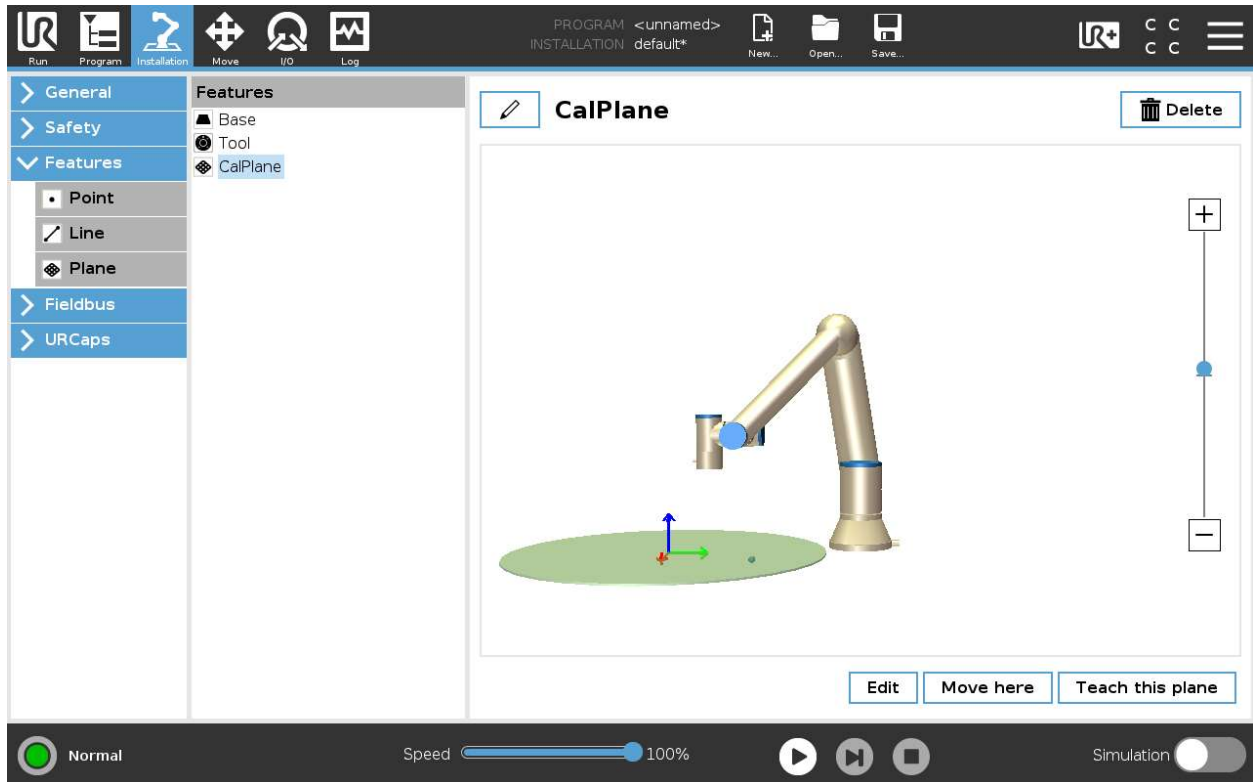

Figure 5 – Plane Definition
- a. This can be done using Polyscope’s plane definition wizard as show in Figure 5.